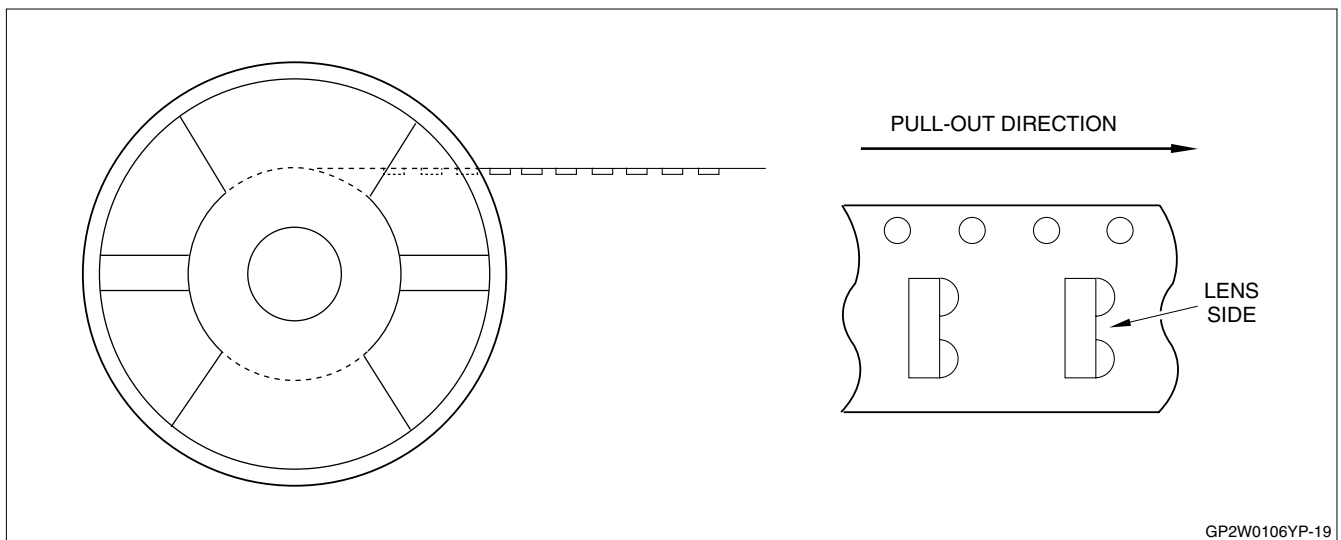

Figure 19. Direction of Product Insertion
- Direction of product insertion: Product direction in carrier tape should be such that electrode side of product is placed on the cover tape side and lens side of product is placed on the hold side of the tape. See Figure 19.